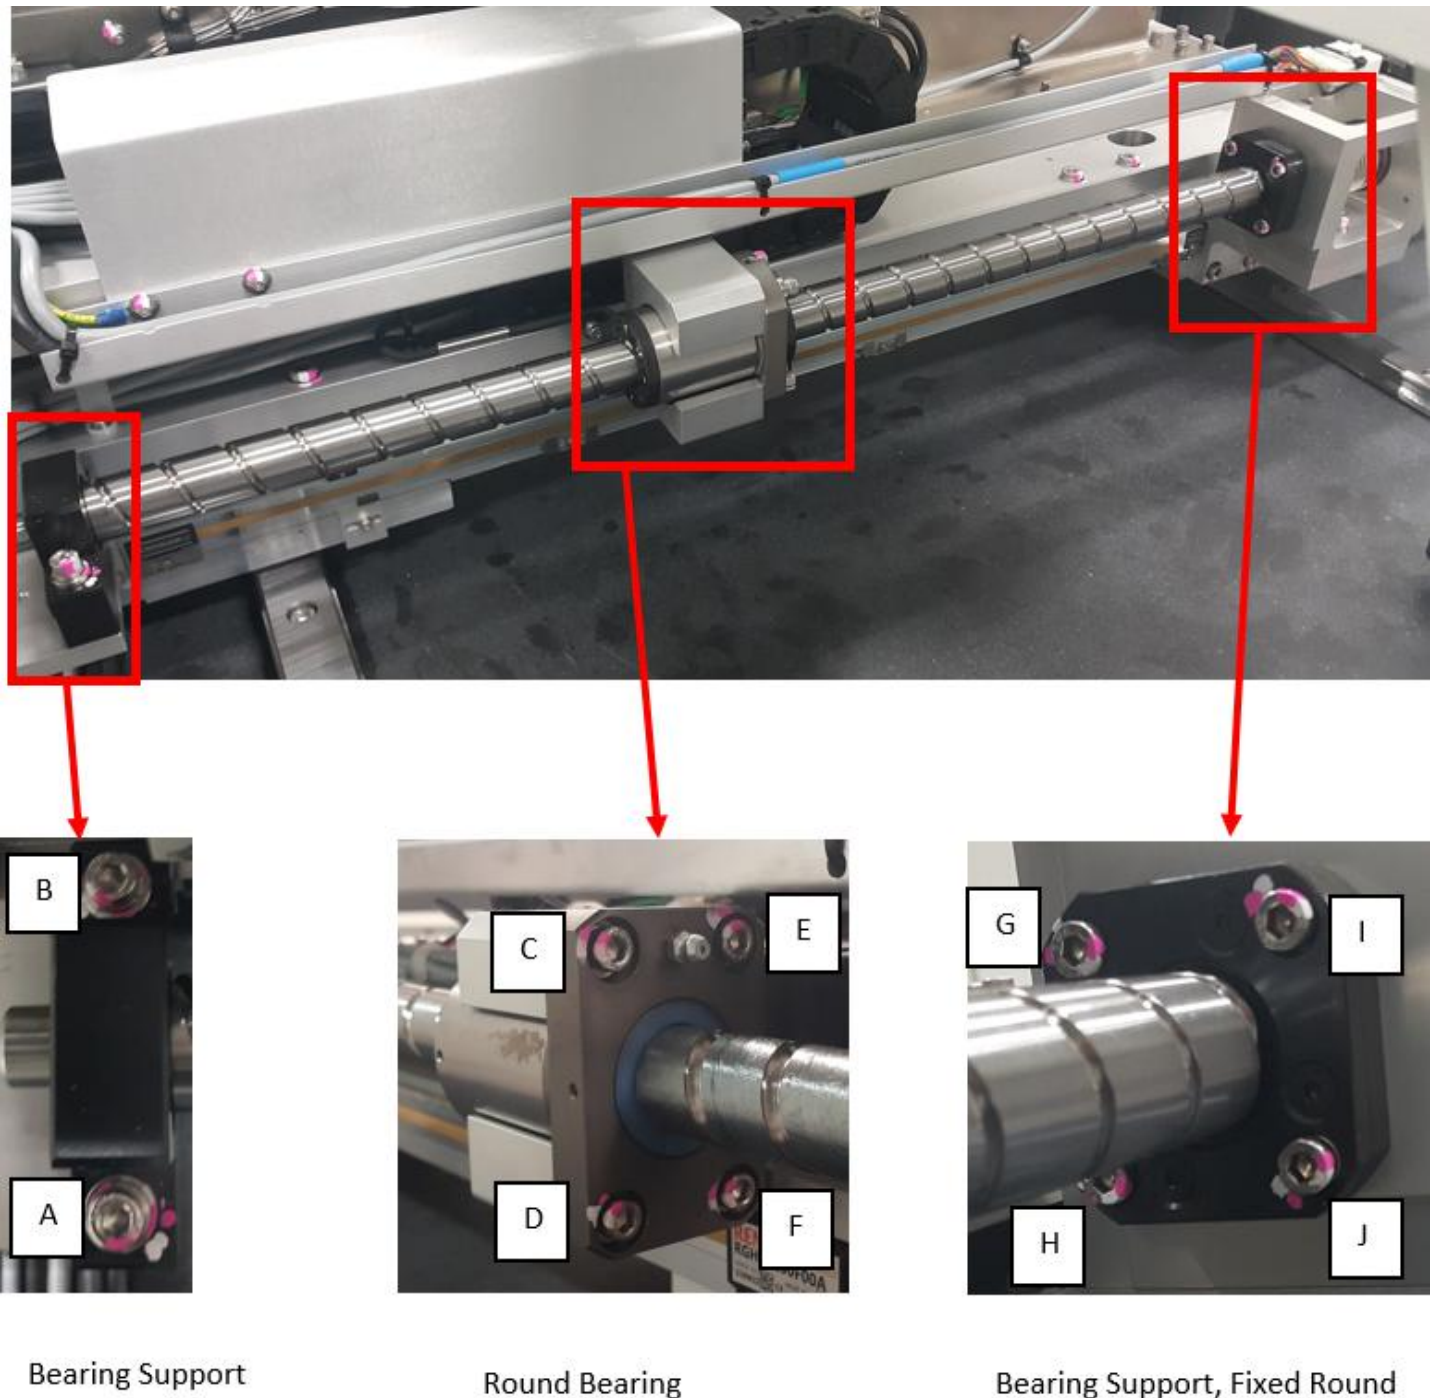

Figure 47 X-Axis Ball screw
38. Install the screw at “A” & “B” of the Bearing Support with M6 Allen Key as shown in Figure 47 and do not tighten those screws.
39. Install the screw at “G” to “J” of the Fixed Support Bearing with M5 Allen Key as shown in Figure 47 and do not tighten those screws.
40. Install the screw at “C” to “F” of the Fixed Support Bearing with M6 Allen Key as shown in Figure 47 and do not tighten those screws.